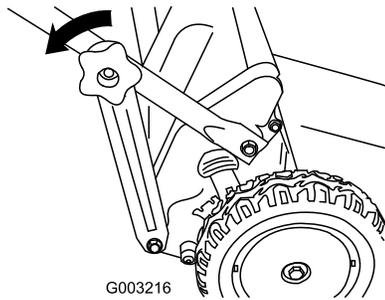

Figure 43
1. Remove the lower handle knobs (Figure 43).
2. Detach the lower handle brackets from the lower end of both handle sides (Figure 43).